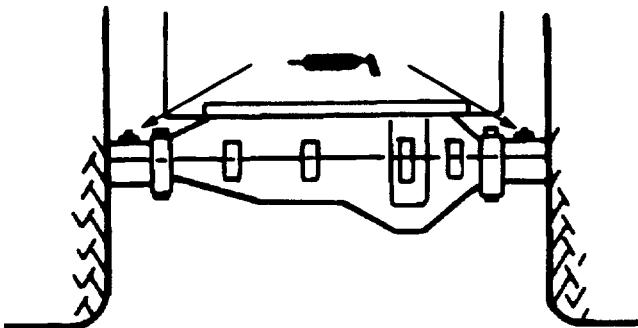

Figure 13
2. Lubricate the rear axle with 3-4 pumps of grease (Fig. 13).